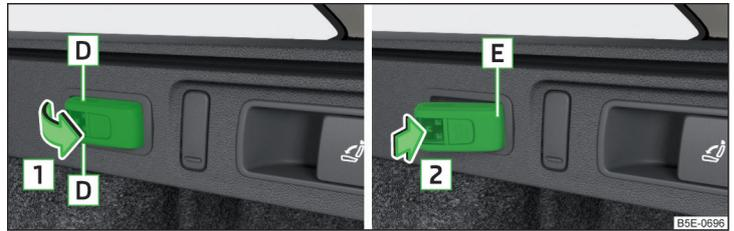

Fig. 124 Removable light: Removing/inserting
- › **To remove**, hold the light in the area **D** and swivel in the direction of arrow **1** » Fig. 124.
- › **To insert**, first of all insert the light with the rear part **E** into the mount » Fig. 124 and then push the light in the direction of arrow **2** until it audibly clicks into place.